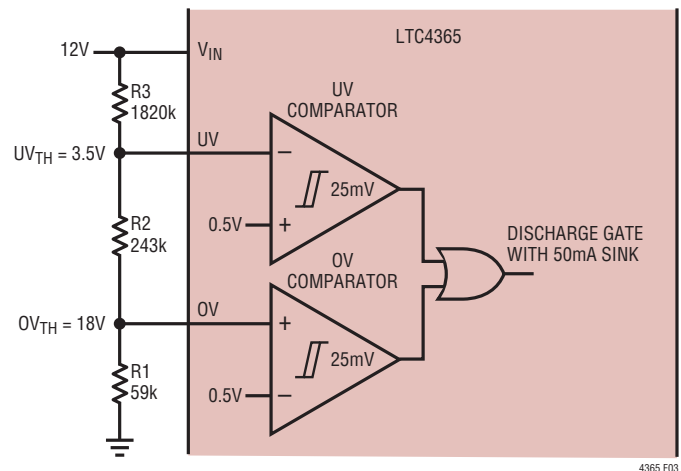

Figure 3. UV, OV Comparators Monitor 12V Supply
The LTC4365 provides two accurate comparators to monitor for overvoltage (OV) and undervoltage (UV) conditions at  $V_{IN}$ . If the input supply rises above the user adjustable OV threshold, the gate of the external MOSFET is quickly turned off, thus disconnecting the load from the input. Similarly, if the input supply falls below the user adjustable UV threshold, the gate of the external MOSFET also is quickly turned off. Figure 3 shows a UV/OV application for an input supply of 12V.
The external resistive divider allows the user to select an input supply range that is compatible with the load at  $V_{OUT}$ . Furthermore, the UV and OV inputs have very low leakage currents (typically  $< 1nA$  at  $100^\circ C$ ), allowing for large values in the external resistive divider. In the application of Figure 3, the load is connected to the supply only if  $V_{IN}$  lies between 3.5V and 18V. In the event that  $V_{IN}$  goes above 18V or below 3.5V, the gate of the external N-channel MOSFET is immediately discharged with a 50mA current sink, thus isolating the load from the supply.
The following 3-step procedure helps select the resistor values for the resistive divider of Figure 3. This procedure minimizes UV and OV offset errors caused by leakage currents at the respective pins.
The example of Figure 3 uses standard 1% resistor values. The following parameters were selected: